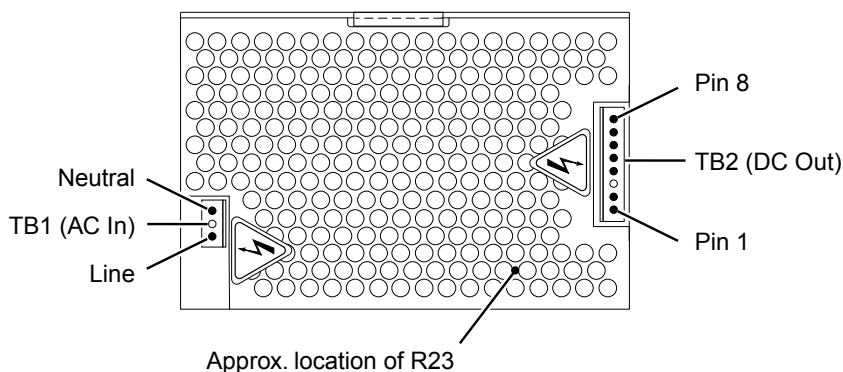

Figure 2-10 A4 DC Power Supply Test-Point Locations
- 4 Connect the negative lead of a voltmeter to the chassis and measure each of the voltages listed in Table 2-3 on Power Supply connectors TB1 and TB2 (see Figure 2-10).